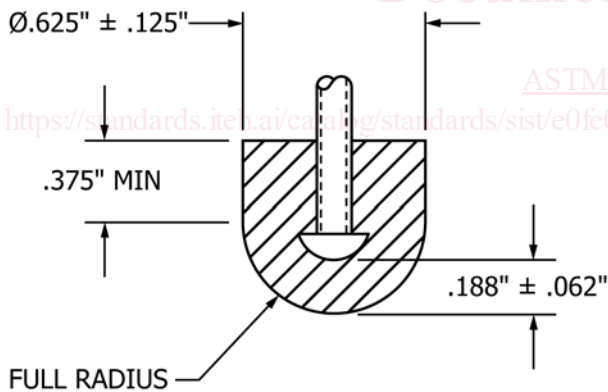
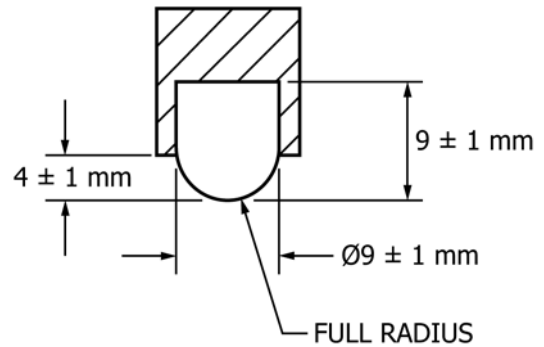

FIG. 3 Test Probe Option
FIG. 4 Test Probe Option
6.1 *Test Probe*, built to either of the configuration shown in Fig. 3 and Fig. 4 are acceptable but must be made of an inert elastomeric material with a hardness number equivalent to $A/45 \pm 5$ as measured in accordance with Test Method D2240. Test probes that do not meet the above criteria must be fully specified and recorded.